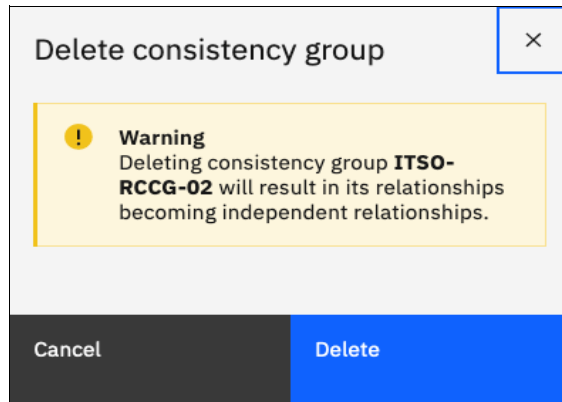

Figure 10-148 Confirming a consistency group deletion
3. A confirmation message opens, as shown in Figure 10-148. Click **Yes**.